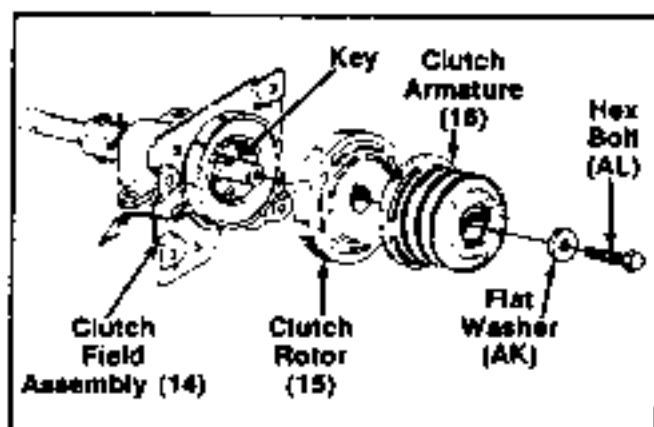

FIGURE 28.
37. Slide clutch rotor (15) onto rear P.T.O. clutch shaft, lining up the woodruff key (AE) with key slot in the clutch rotor and over clutch field assembly. See figure 28.
38. Slide clutch armature (16) over rear P.T.O. clutch shaft and secure with large flat washer (AK) and hex bolt (AL). See figure 28. **NOTE:** Use loctite on hex bolt (AL) prior to assembly.